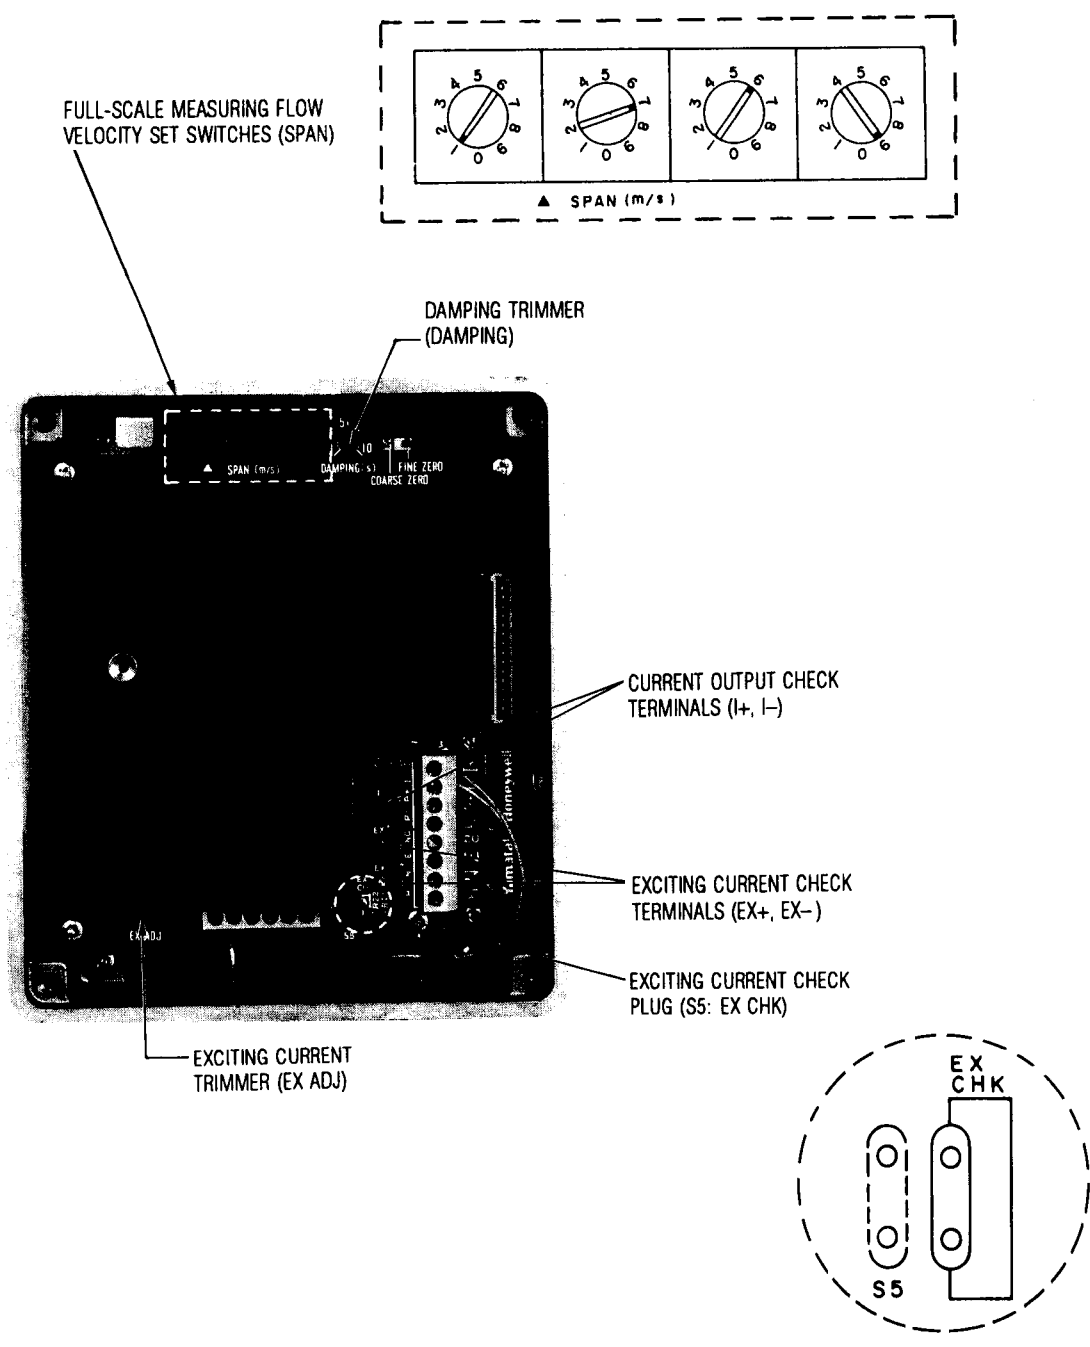

Figure 7-2. Main Board
- (b) When no display board is provided (see Figure 7-2), connect a ammeter between current output terminals I+ and I-, and adjust the FINE ZERO control so that the output current becomes 4.000 mA.
- 1) Damping Adjustment (Refer to Figure 7-2)
* Refer to Figure 7-2.